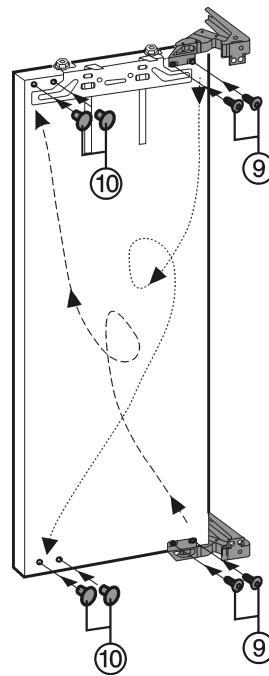

Fig. 4
- Unscrew Fig. 4 (9) the hinges from the door, transfer them and **screw them on tightly (4 Nm)**.
- Close vacated fastening holes with stoppers Fig. 4 (10).